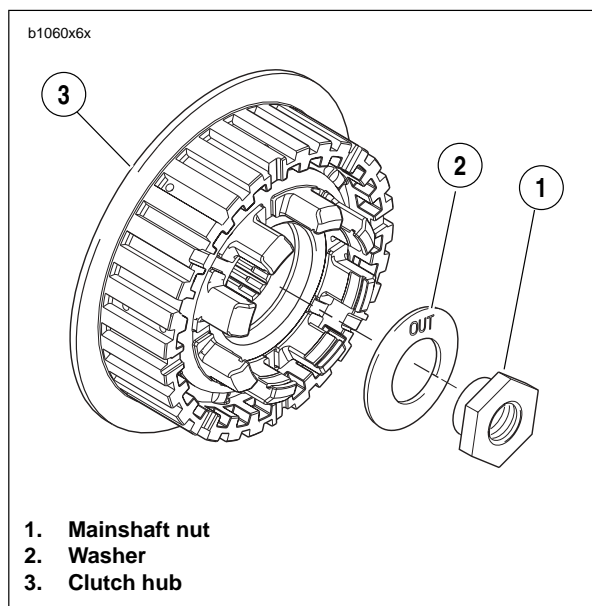

Figure 6-35. Mainshaft Nut and Washer
See Figure 6-35. Washer must be installed with the word "out" facing the mainshaft nut or transmission may be damaged.
6. See Figure 6-35. Install mainshaft washer (2) and nut (1).
- b. Place washer (2) on mainshaft with the word "out" facing away from clutch hub.
7. Install nut (left-hand threads) (1). Tighten to 70-80 ft-lbs (94.9-108.5 Nm). Remove SPROCKET LOCKING LINK.